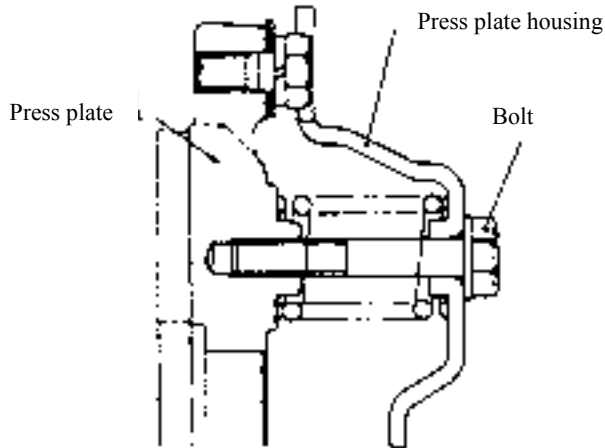

Fig. 2.6 The bolt
- 2) Press down the clutch pedal, take down the pressure plate with the bolt(see the Fig.2.6)